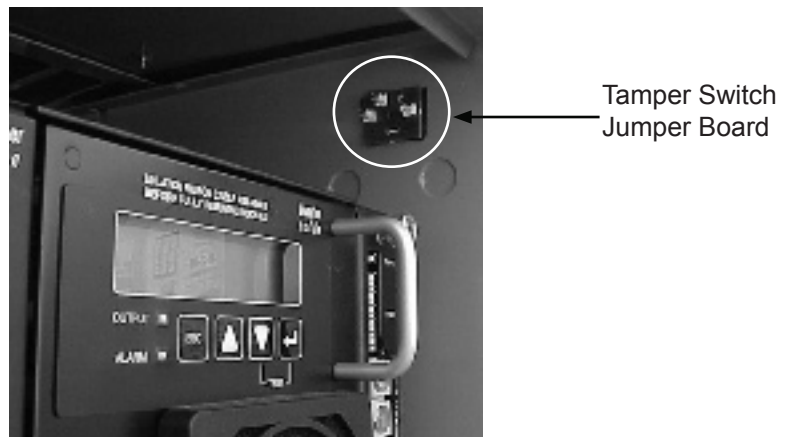

Fig. 2-22, Tamper Switch Jumper Board, Legacy Enclosure
1. Using the velcro provided, attach the tamper switch jumper board to the right wall of the enclosure. See Fig. 2-22.